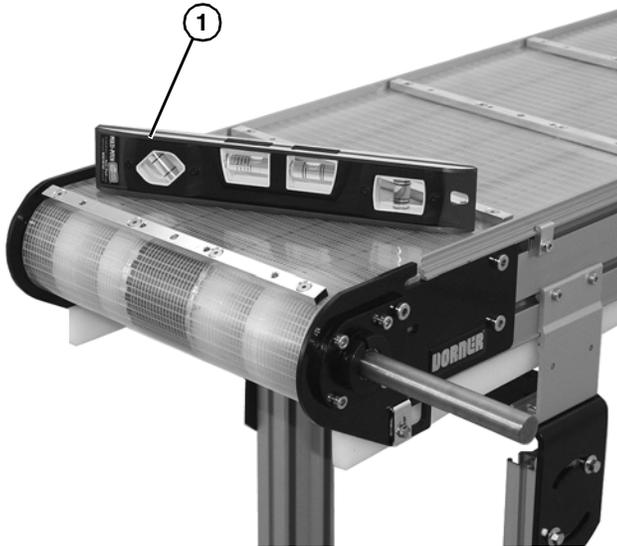

Figure 4
Conveyor **MUST** be mounted straight, flat and level within confines of conveyor. Use a level (Figure 4, item 1) for setup.